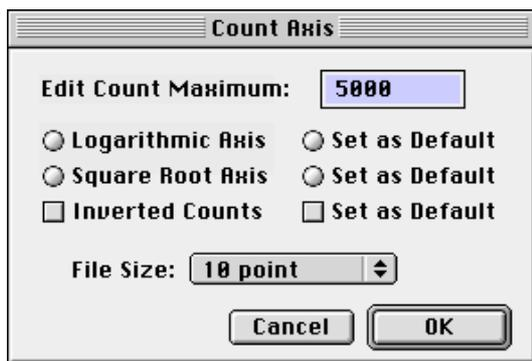

Fig. 16
- Count Axis...** (or click count scale) opens a dialogue window (Fig. 16) where the count size (vertical axis) to be displayed may be entered. Also, the count display can be converted to **logarithmic** or **square root scale** and/or the count axis inverted. Click '**Set as Default**' to make this setting permanent.